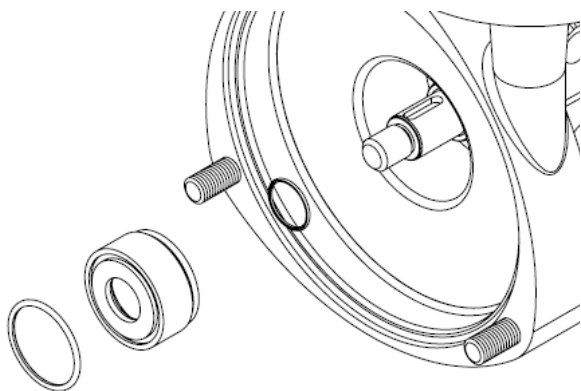

Figure 12
4. Install inner seal driver o-ring, then slide the rotating seal assembly onto the stub shaft, as seen in figure 12, against the stationary seal. Be sure the outer seal driver o-ring is in the o-ring groove in the seal driver.